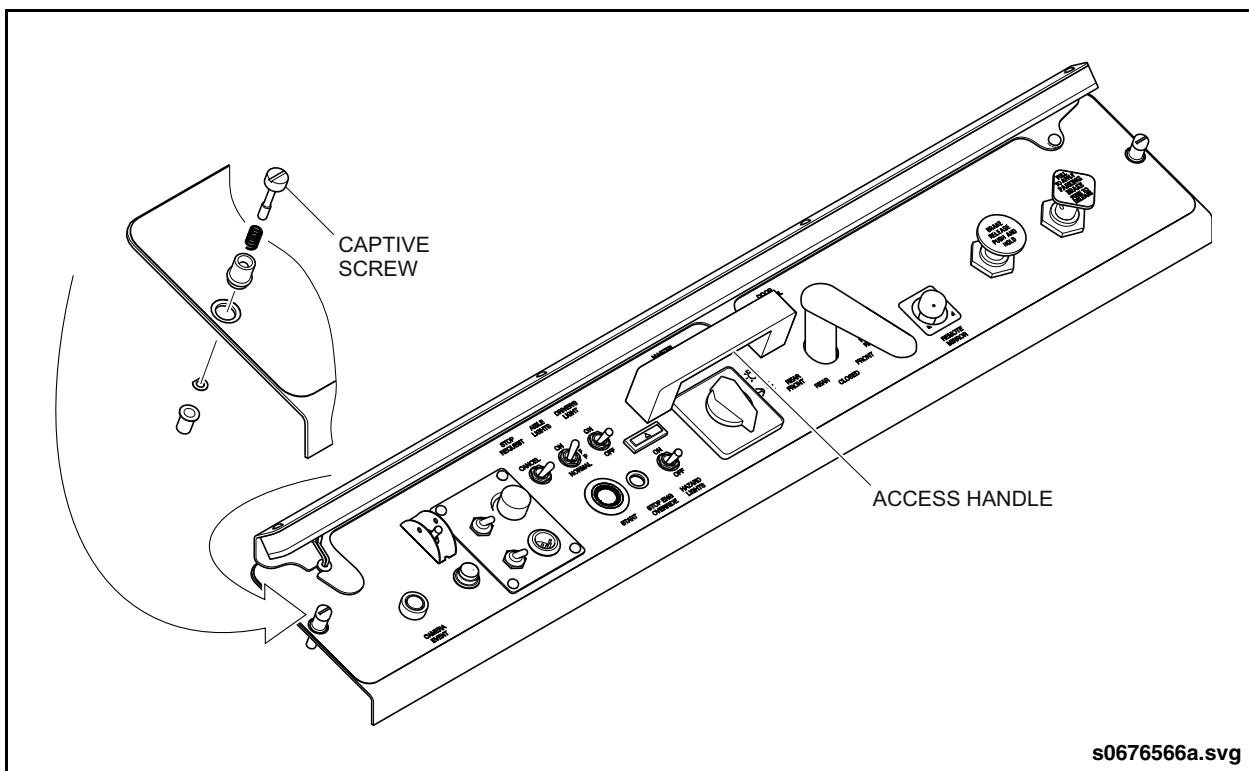

Fig. 19-13: Side Console Repair
2. Loosen the captive screws at either end of the side console. Pull on the access handle and raise the console. See "Fig. 19-13: Side Console Repair" on page 30.